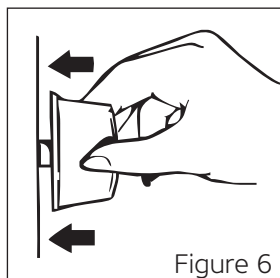
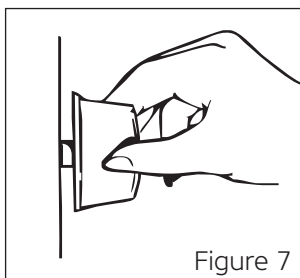
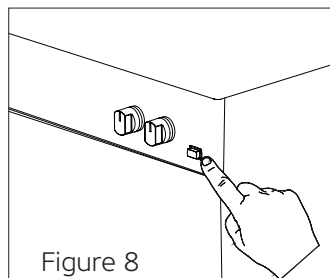

Figure 6
Figure 7
Figure 8
1. To use the burner of your preference, first press the knob in the direction of the arrow and wait 5 seconds for air to escape from the pipes (See figure 6).
In Models With Manual Ignition; you can ignite the burner of your preference with an igniter (Match, lighter) by rotating the knob (See figure 7).
*** In Models With (Auto) Ignition With A Knob;** you can ignite the burner of your preference by pressing the knob in the direction of the arrow (See figure 6) and rotating the knob (See figure 7).
*** In Button Ignited Models;** first, press the button on the control panel (See figure 8). Then, by pressing your preferred burner knob in the direction of the arrow, you can ignite the burner (See figure 6).